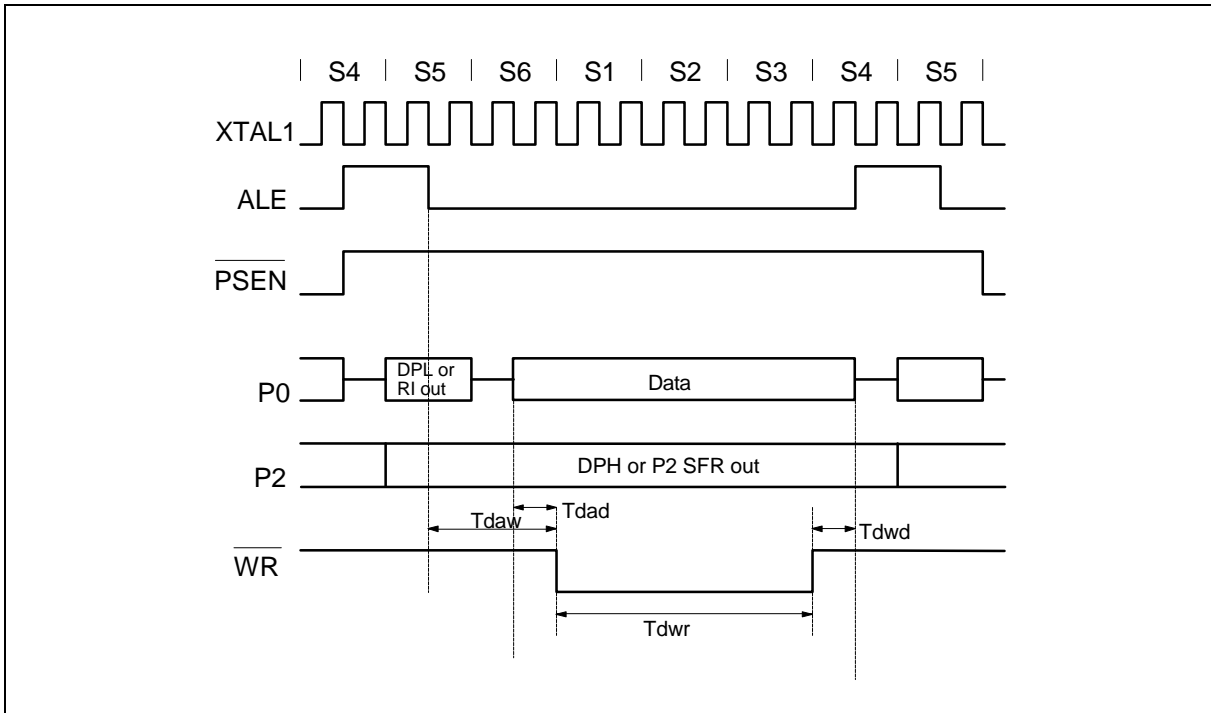

Figure 8. External Data Memory Write Cycle
**Data Write Cycle****External Data Memory Write Cycle** (see Figure 8)